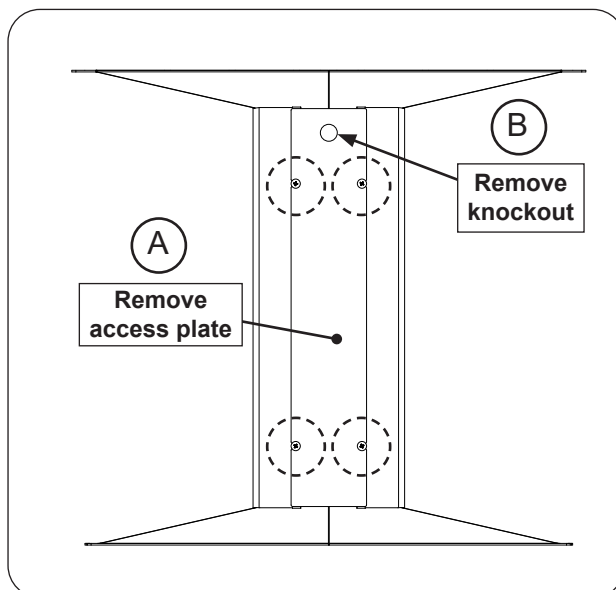

Fig. 26-1 Remove access plate and knock-out
2. Locate the rear access plate on the post base assembly and remove it by unscrewing the four Phillips-head screws. See Fig. 26-1, A.
3. Remove the knockout from the upper portion of the access plate. See Fig. 26-1, B.